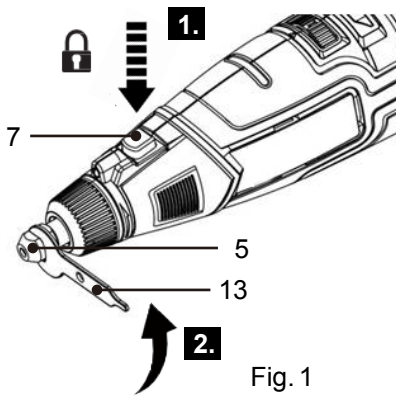

Fig. 1
> Press the shaft lock button (7) down while rotating the tensioning nut (5) and ensure shaft (28) do not wobble, use the spanner (13) to remove the tensioning nut (5) by turning it anticlockwise and then take the collet (9) out from the shaft (28) (Fig.1&2) .